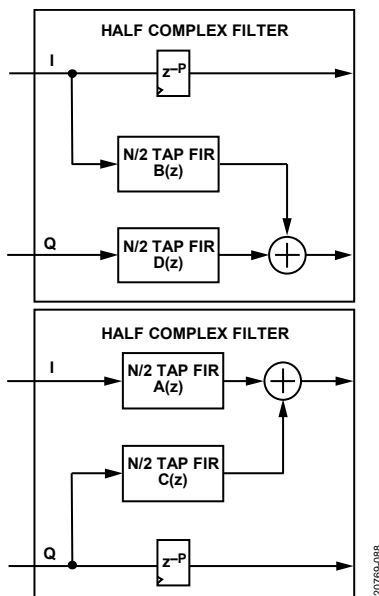

Figure 100. 96-Tap Half Complex Filter
Half complex filter using two real N/2-tap filters for the I/Q channels (see Figure 100).
- Quadrature error correction: when a complex signal is sampled, then imperfections in the amplitude and phase imbalance of the I/Q signal can be corrected. The most common method for error correction is to use the half complex filter of Figure 100 using the $B(z)$, and $D(z)$ filters. Half complex filter can be used if there is no frequency asymmetry involved and full complex filter if there is frequency asymmetry..